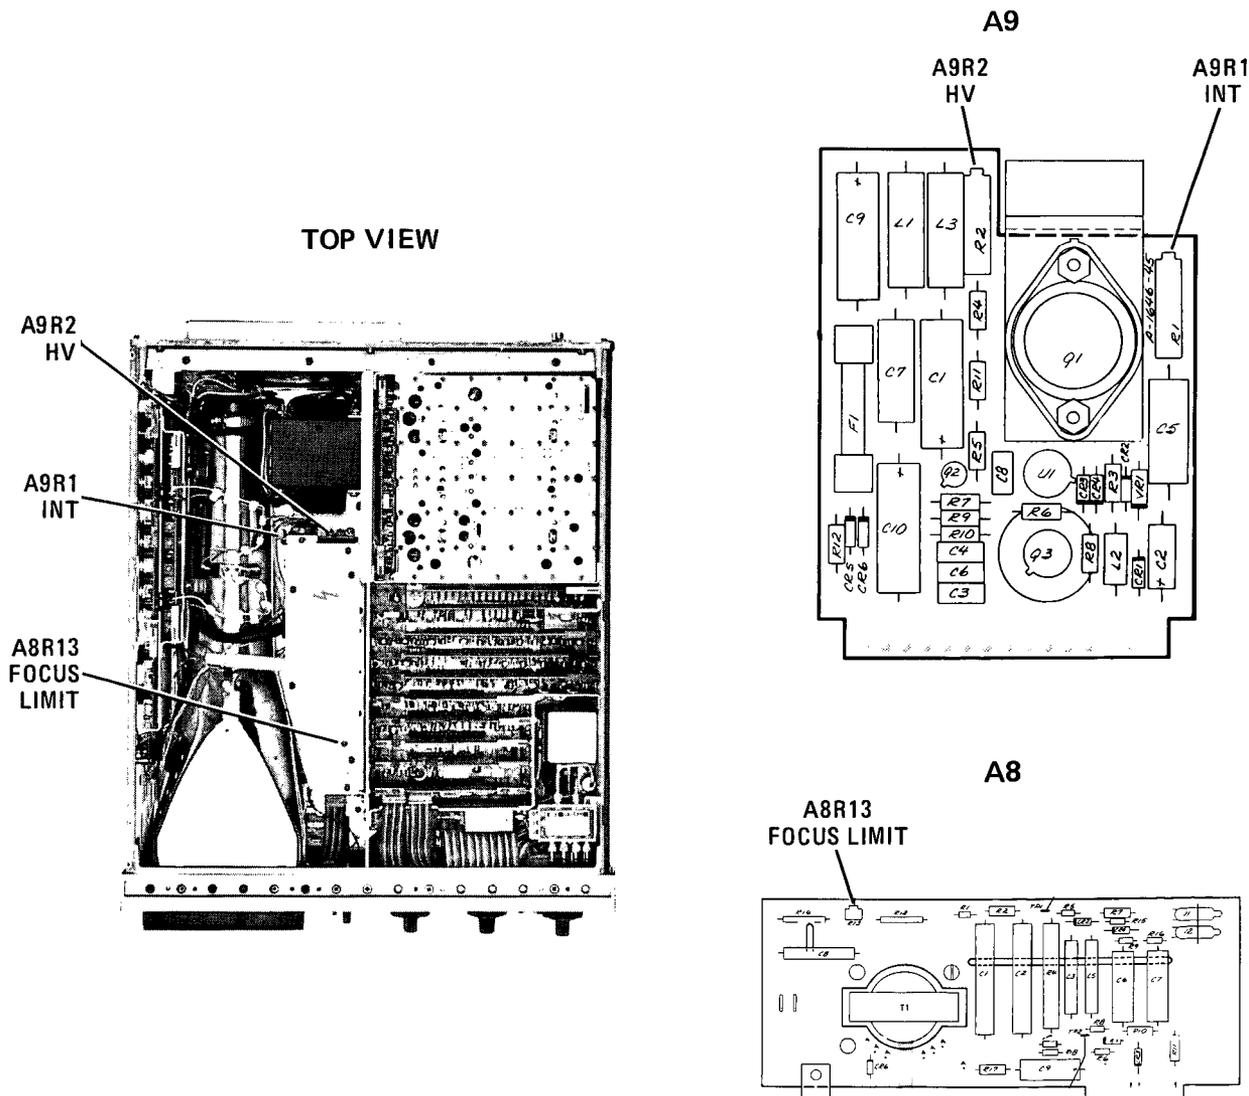

Figure 5-4. High Voltage Power Supply and Oscillator Driver Adjustment Locations
- e. Adjust A9R2 HV (Figure 5-4) for a reading equal to the calibration factor, calculated in step c-4, times -3000 volts.
- h. With front panel FOCUS control set to midrange, adjust A8R13 FOCUS LIMIT (Figure 5-4) and front panel ASTIG (A3R1) for a sharply focused round spot.
- l. Adjust A9R1 INT (Figure 5-4) for an 8 volts peak-to-peak signal at A8TP1.